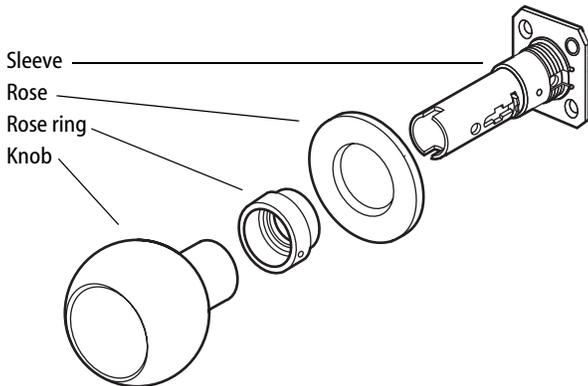

Figure 2– Unscrewing the rose ring and sliding the rose off the sleeve
- Unscrew the rose ring from the sleeve. See Figure 2.
- Slide the rose over the sleeve. See Figure 2.